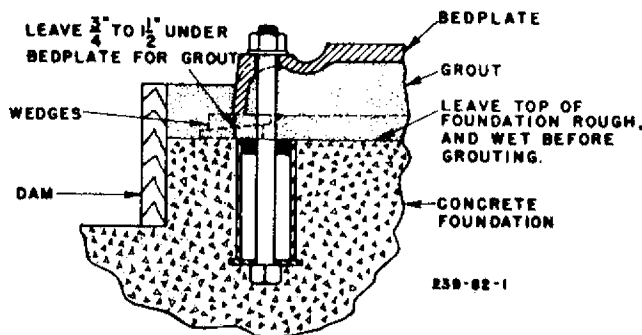

Fig. 1
washer between bolt head and sleeve to hold bolt in position. See Fig. 1. Stuff waste around foundation bolts to prevent concrete from entering between the bolt and pipe sleeve.
- (c) The foundation bolts should be of sufficient length so that they project through the nuts approximately $\frac{1}{4}$ " after allowance has been made for grouting ($\frac{3}{4}$ " to $1\frac{1}{2}$ "), the thickness of the bedplate, and the thickness of the foundation bolt nut. See Fig. 1.
- (a) Build wood dam around foundation as shown in Fig. 1 and wet top surface of concrete foundation thoroughly.